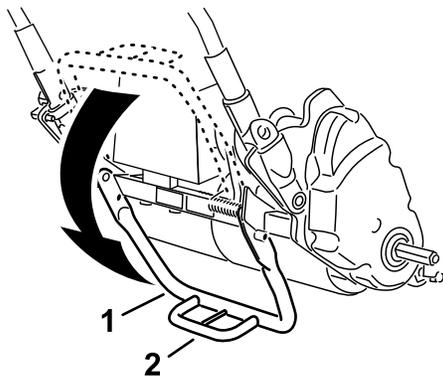

Figure 11
1. Use your foot to push the center of the kickstand loop down and pull up on the lower handle support until the kickstand has rotated forward and over center (Figure 11).